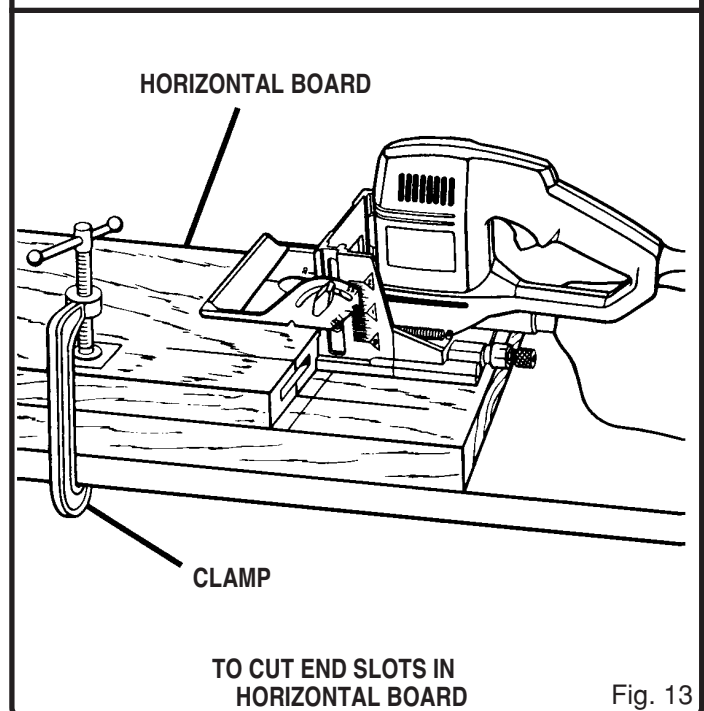

Fig. 13
- Plug your plate joiner into power supply and cut slots in all boards that require end slots. See Figure 13. Follow procedures explained in "**Edge-To-Edge Joints**". Set fence angle at 90°, set fence height at desired dimension on the scale, select the correct depth of cut setting for the biscuit size you plan to use, clamp workpiece securely, then cut each slot at the marked centerline intersection.